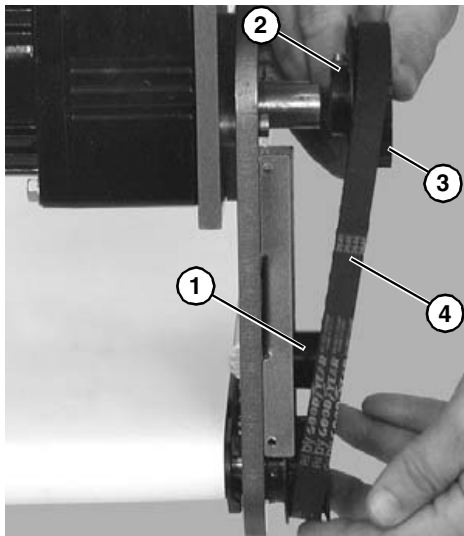

Figure 26
<p>If drive pulley (Figure 26, item 3) was replaced, wrap timing belt around drive pulley and complete step 3.</p>
2. Loosen tensioner (**Figure 26, item 1**).
3. Loosen drive pulley set screws (**Figure 26, item 2**).
4. Remove drive pulley (**Figure 26, item 3**) and timing belt (**Figure 26, item 4**).
*If drive pulley (**Figure 26, item 3**) was removed, wrap timing belt around drive pulley and complete step 11.*